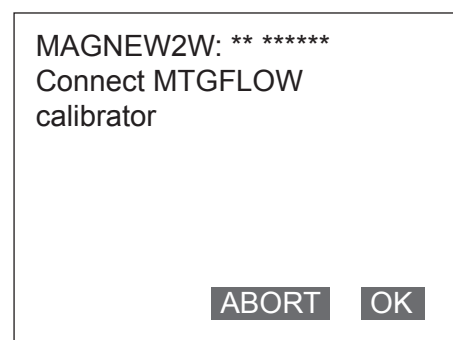

Figure 7-47
2. Figure 7-47 will then appears. Connect the calibrator, and then press F4 (OK).